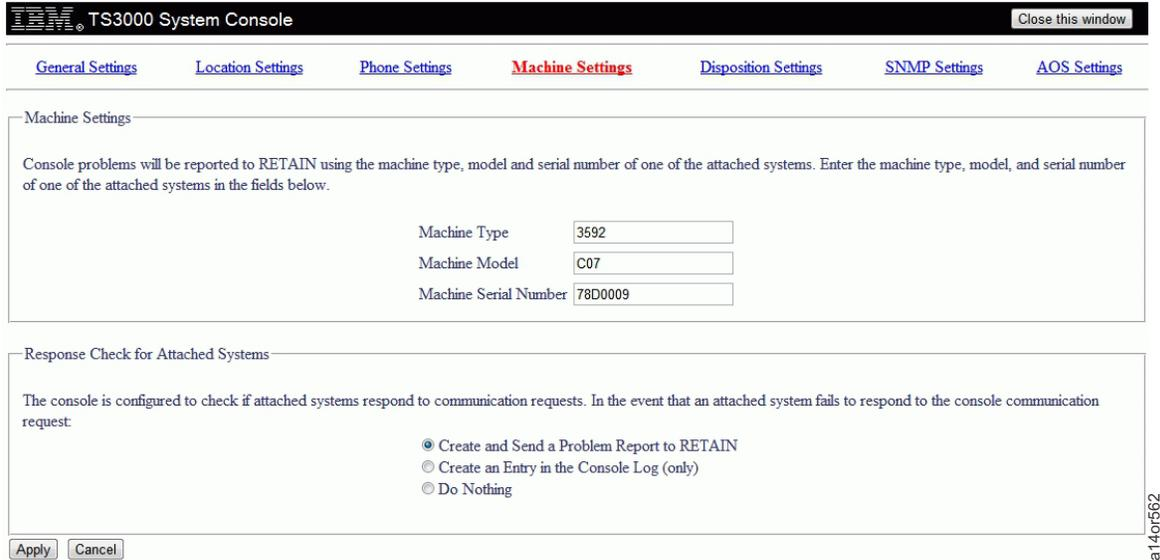

Figure 118. Machine Settings Screen
13. From the top menu, select **Machine Settings**. You see the Machine Settings screen in Figure 118 on page 90.